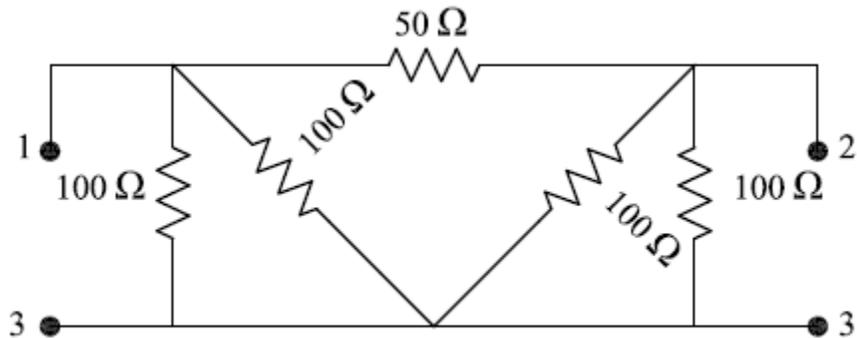

Fig 5 : experimental circuit of part 4
1. Connect circuit the circuit shown in Figure 5.